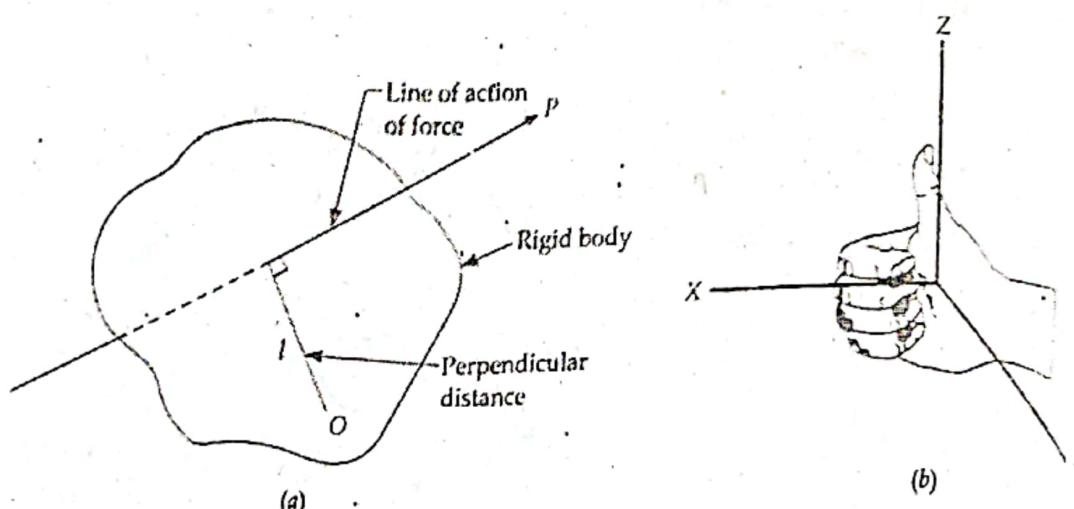

Fig. 17. Concept of moment of force and direction of a moment
With reference to Fig. 17
- The sense of the moment is identified by applying the right hand rule (Fig. 17 b). The moment M about Y-axis is represented by the vector that points towards the direction thumb.
- If force is measured in newton (N) and length in metres (m), then the units of force will be Nm.